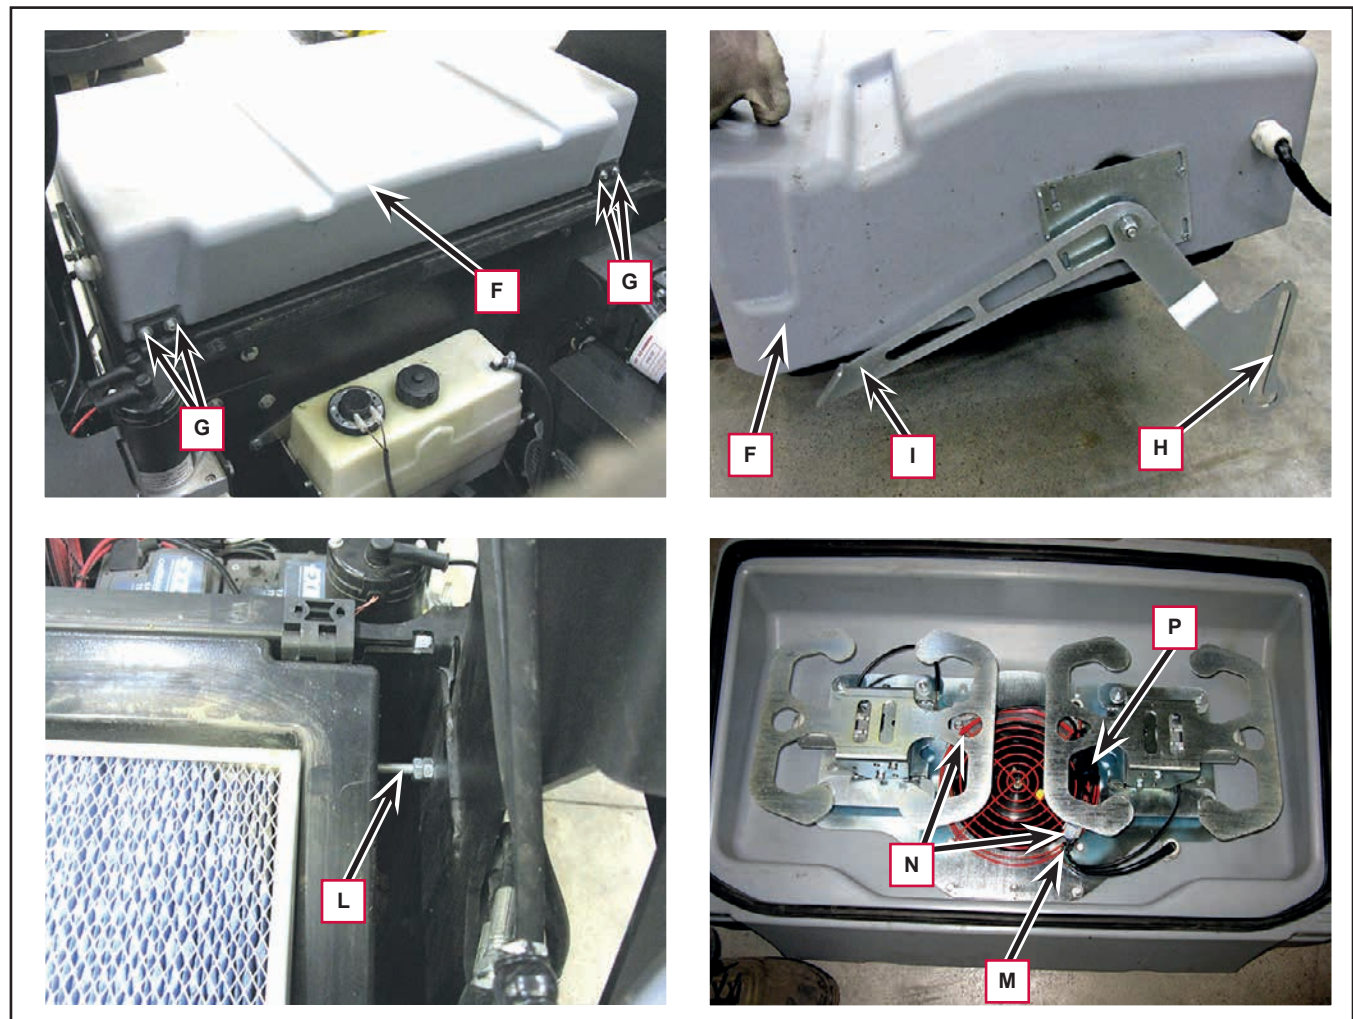

Figure 10
9. Unscrew the hood hinge (F) screws (G, Figure 10).
10. Remove the hood (F), disengaging the slot (H) of the lever (I) for releasing the hood from the pin (L) on the machine chassis.
11. Cut the various cable clamps (M) on the workbench, then disconnect the electrical connections (N) of the two filter shaker motors and the electrical connection (P) of the electric fan.